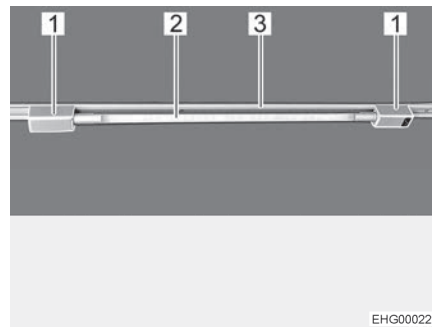

Fig. 36 Fluorescent tube
- Insert both brackets (Fig. 36,1) into the rail (Fig. 36,3). In order to do this, turn bracket through 90°.
- Plug lamp body (Fig. 36,2) into one of the brackets.
- Turn lamp body handle (Fig. 36,2) until the desired lighting effect is achieved.